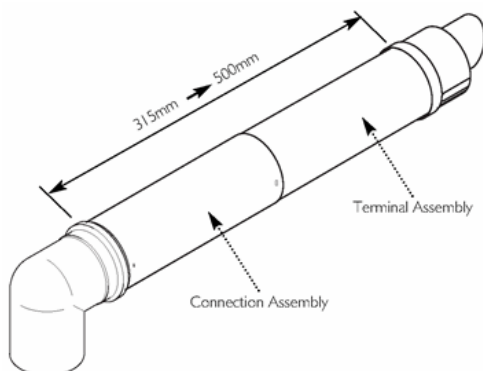

Fig. 31
2. The two sections can be adjusted to provide a length between 315mm and 500mm (Fig. 31) when measured from the flue elbow (there is 50mm engagement into the elbow).